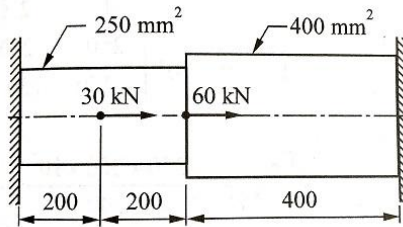

Figure: 6
- b.** Consider the bar as shown in Figure 6. Determine the nodal displacements, element stresses and reactions, if the temperature rises by 60°C . Assume modulus of elasticity for the complete bar as 200 GPa and coefficient of thermal expansion as 12×10^{-6} per $^{\circ}\text{C}$. **07**